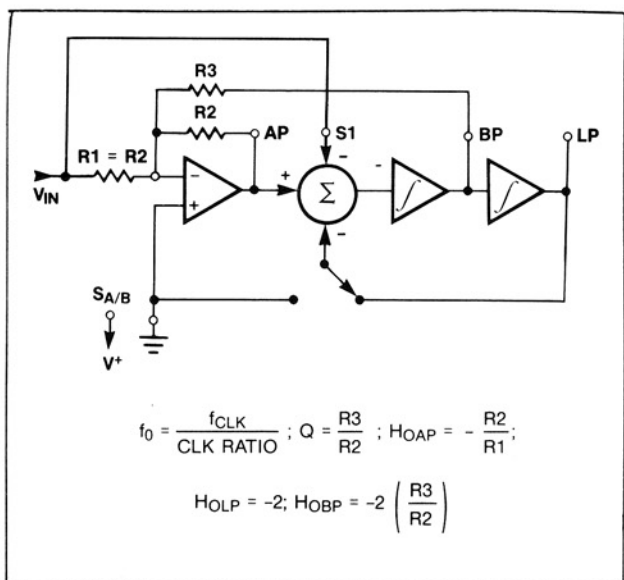

Figure 15. Mode 4: 2nd-Order Filter Providing Allpass, Bandpass, Lowpass
**MODE 4 and 4A** (Figures 15, 16) provide the only all-pass output, i.e., a nearly flat amplitude response and linear phase shift with frequency (constant time delay). The numerator complex zero pair and denominator complex pole pair have the same center frequency and  $Q$  so that the magnitude response is a straight line. In Mode 4,  $f_0$  is controlled by the clock and  $f_{CLK}/f_0$  programming while in Mode 4A,  $f_0$  can also be tuned with resistors.